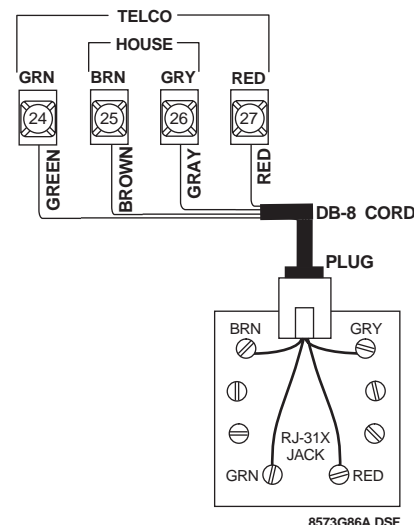

Figure 34. Connecting the DB-8 Cord to the Panel and RJ-31X Jack
1. Connect the green, brown, gray, and red flying leads from the DB-8 cord to panel terminals 24, 25, 26, and 27 (see Figure 34).
2. Insert the DB-8 cord's plug into the RJ-31X (see Figure 34).